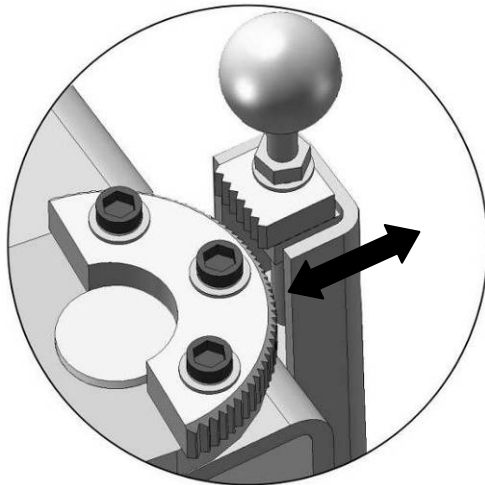

Fig. 34
3. Adjust the arm lock. Follow the arrow direction (See Fig. 34).